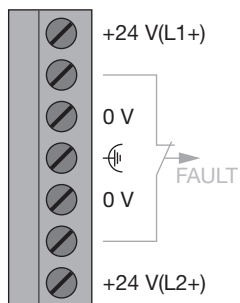

Fig. 1: Operating voltage supply – assignment of 7-pin terminal block
- ▶ The repeater should only be supplied with a regulated safety extra-low voltage (SELV) in accordance with IEC/EN 60950-1, EN 61131-2 with a maximum of +32 VDC (typ. +24 VDC). It can be fed in using the 7-pin screw-type terminal block (see Fig.1) on the upper side of the repeater. The operating voltage inputs are protected against incorrect pole connection.